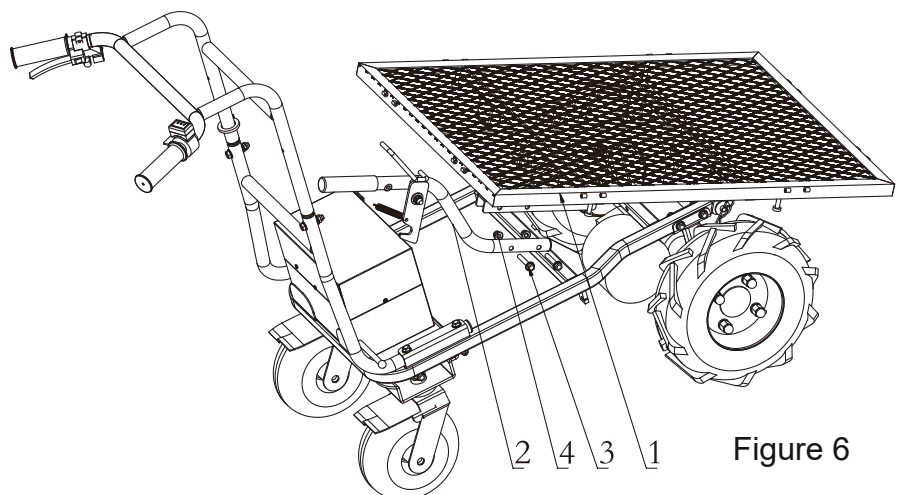

Figure 6
4. Attach the dumping handle(2) to the bottom wire deck(1), attached by Flange bolt (3) and nut (4). **(See Figure 6)**